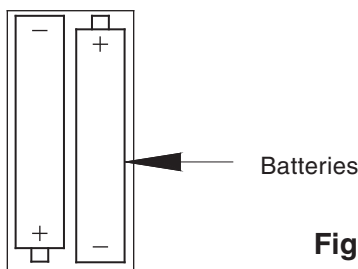

Fig. 4
2. Install two AAA batteries into the remote control (see Fig. 4)